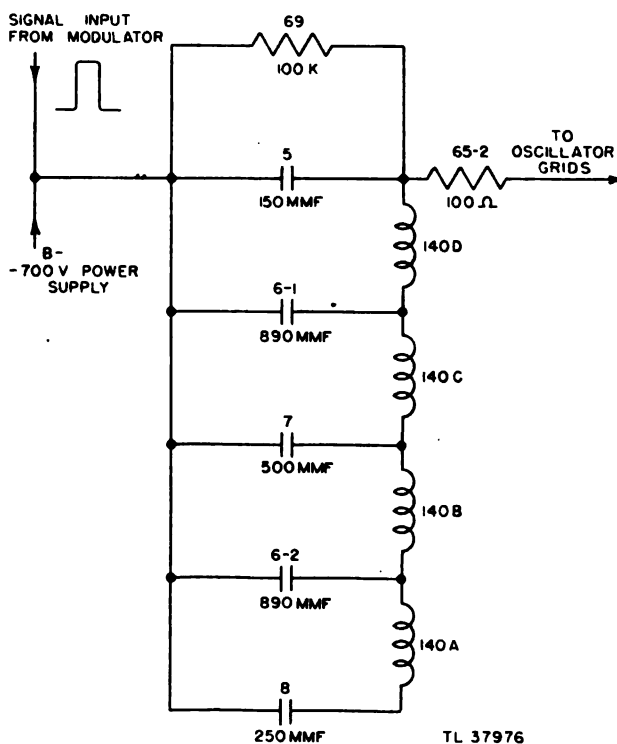

Figure 11. Artificial line, partial schematic.
a. GENERAL. An artificial line is used between the output of the modulator VT-100 and the grids of the r-f oscillator tubes in order to control the width of the r-f pulse emitted by the oscillator. The artificial line consists of a network of inductances and capacitors the electrical characteristics of which are so proportioned that the time of travel of a wave from the input of the line and back again is 6.66 microseconds. Its presence is necessary because the r-f oscillator has plate voltage on it at all times and if an ordinary pulse were supplied to its grid circuit, it would not stop oscillating promptly at the cessation of the pulse (fig. 11).